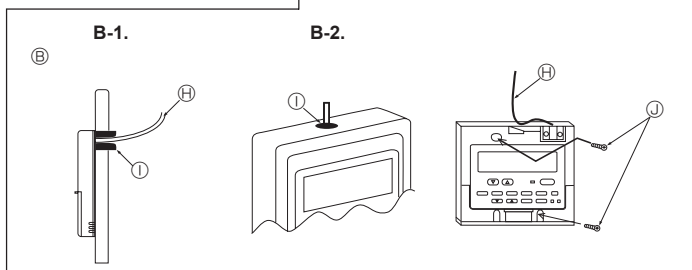

Fig. 6-8
- ① Remote controller profile
- ② Required clearances surrounding the remote controller
- ③ Installation pitch
(2) Seal the service entrance for the remote controller cord with putty to prevent possible invasion of dew drops, water, cockroaches or worms. (Fig. 6-8)
① For installation in the switch box:
② For direct installation on the wall select one of the following: